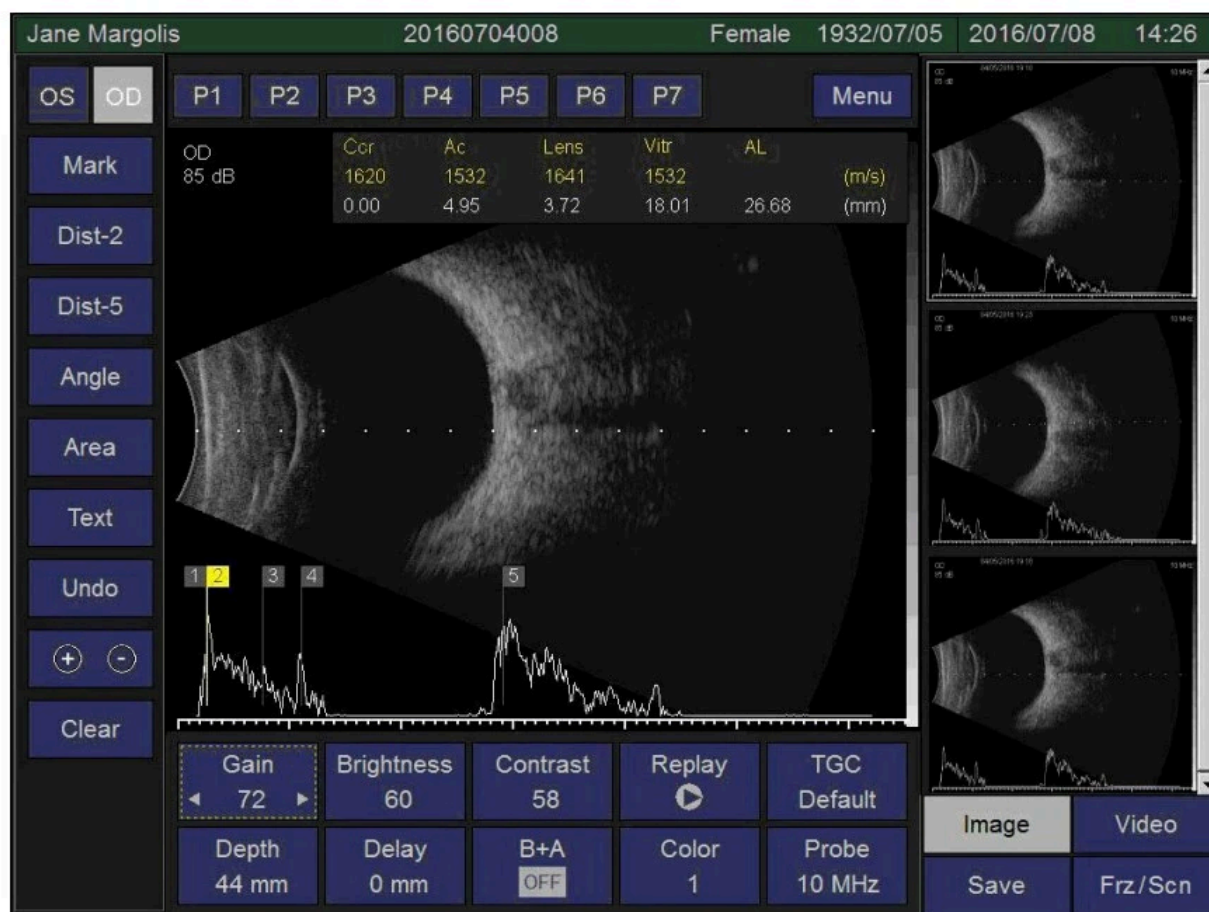

Figure 4-6-2 5-Point Marking Method under B+A mode
- Click **Dist-5** to use 5-Point Marking Method under B+A mode shown in Figure 4-6-2;